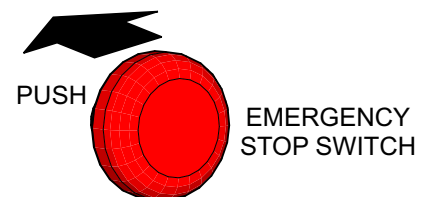

Figure 58. Emergency Stop Switch (Push)
2. Push the **EMERGENCY STOP** switch (Figure 58).